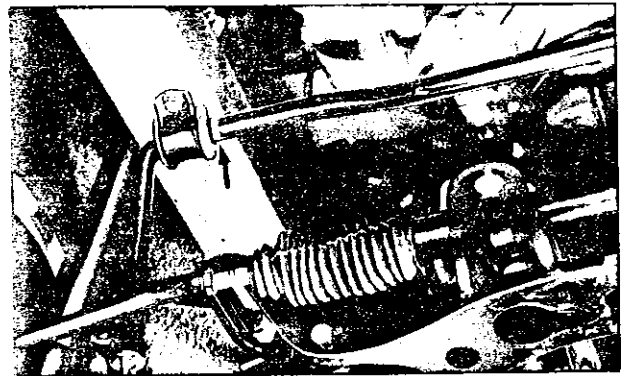

Fig. FA-12 Installing stabilizer bar
(1) Tighten the transverse link mounting bolts and stabilizer bar body side installation bolt to the rated tightening torque with the vehicle loaded with the standard load (two passengers).
(2) Install the stabilizer bar correctly so that the position painted in white is in the position indicated in Figure FA-12.
(3) When assembling the stabilizer connecting rod and transverse link, be sure to tighten the first nut to 1.2 to 1.9 kg-m (8.7 to 13.7 ft-lb) tightening torque and tighten the lock nut to secure the first nut.